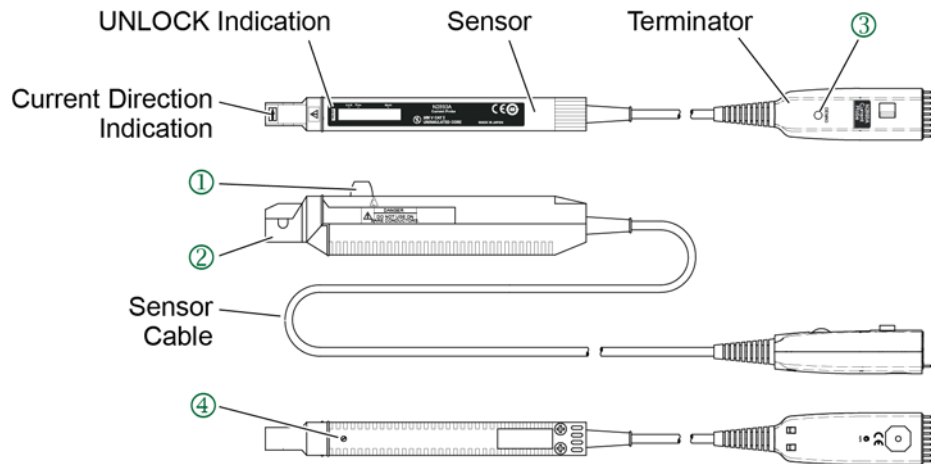

Figure 1 Probe Parts Identification
- 4 Press the probe's **DEMAG** button shown in Figure 1 on page 10. A demagnetization waveform will be displayed for a short time on the channel to which the probe is connected. Wait until this waveform is no longer displayed.